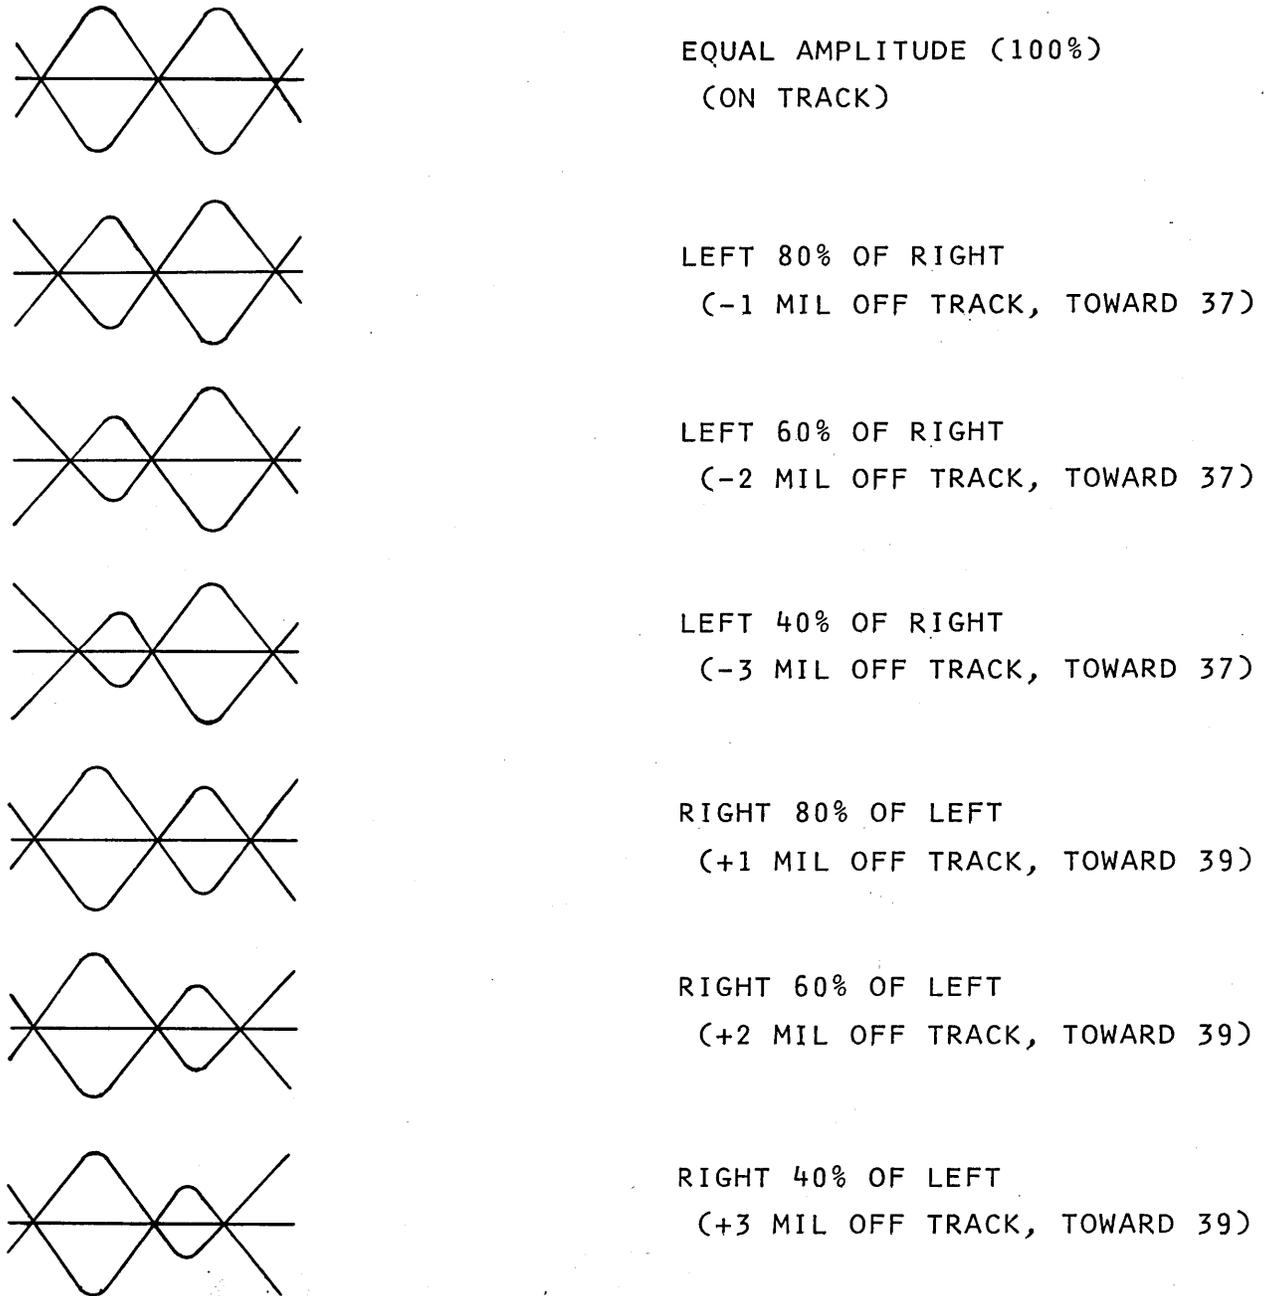

FIGURE 1
- d. Manually turn stepper motor shaft until a "cats-eye" pattern (see Figure 1.) is observed on the oscilloscope.
- f. Lightly tap the stepper motor in the direction noted until the "cats-eye" pattern observed has equal amplitudes (one lobe being a minimum of 80 percent of the other). Refer to Figure 1.